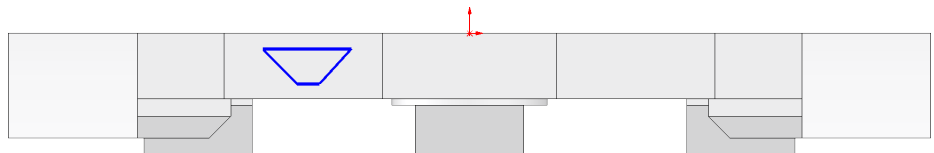

Fig. 78
Step 4. Sketch a trapezoid, **Fig. 78**.